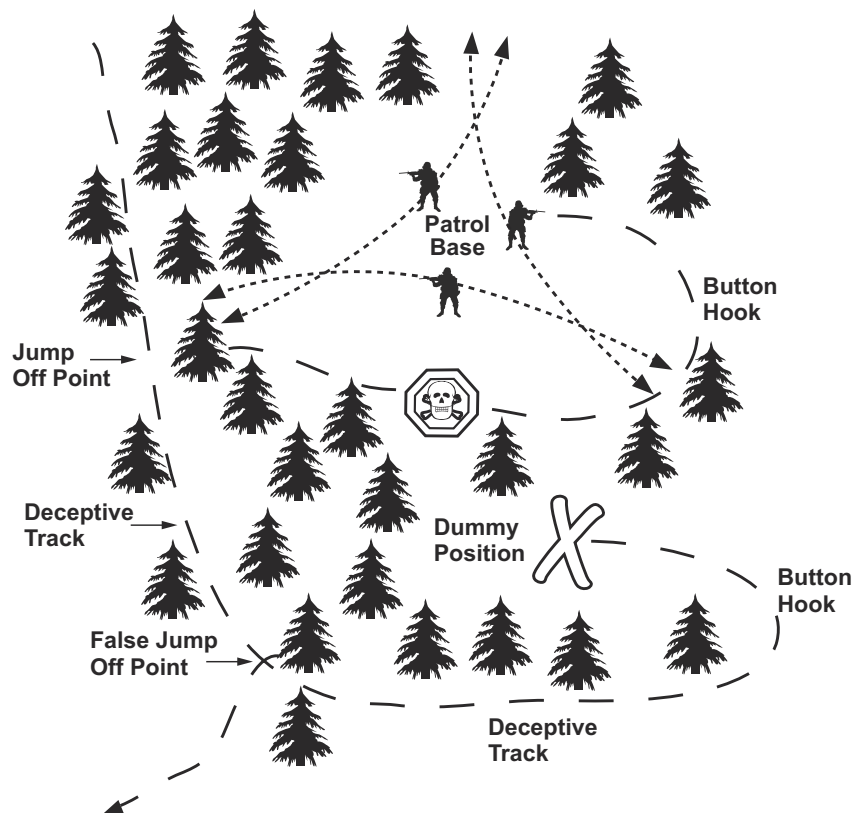

Figure 10-1. Patrol Base Plan.
- *Buttonhook.* The buttonhook is the preferred method of setting in a track plan to a patrol base. This technique allows the track to be observed and covered by fire during the occupation of the position (see fig. 10-1).